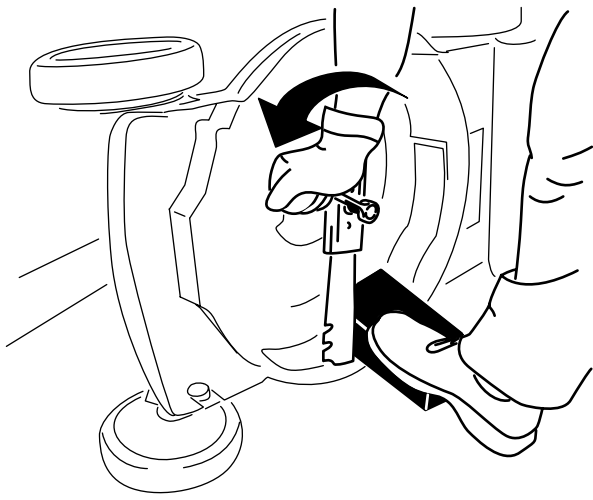

Figure 27
2. Use a block of wood to hold the blade steady (Figure 27).
3. Remove the blade, saving all mounting hardware (Figure 27).